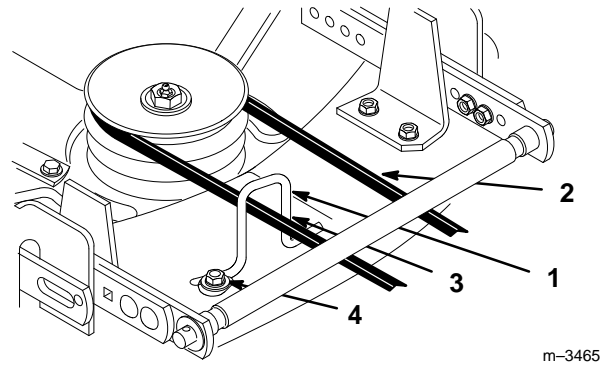

Figure 14
- 9. Loosen the belt guide bolt (Fig. 14).
- 10. Adjust the belt guide so that it just touches the belt on the inside arm of the guide (toward the center of the deck) (Fig. 14).